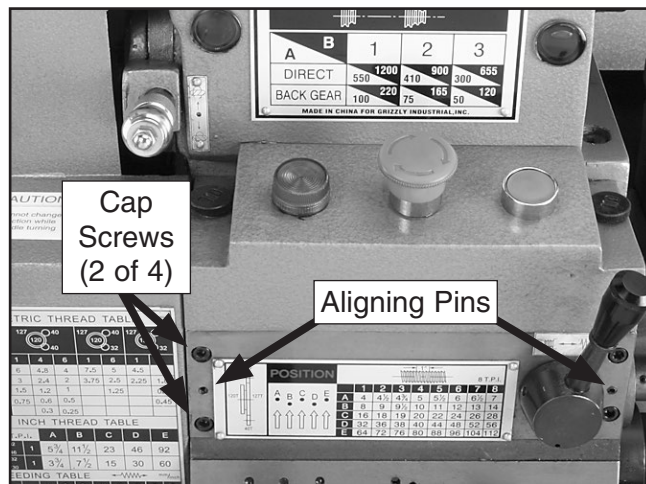

Figure 83. Feed rate gearbox cover.
1. Use a 5mm hex wrench to remove the four cap screws securing the feed rate gearbox cover (see **Figure 83**).